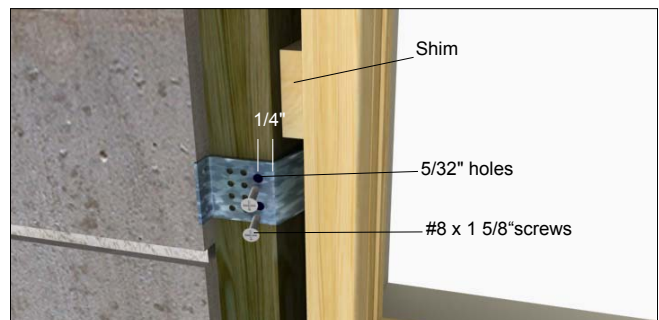

Figure 8 Fastening with structural brackets (concrete block application shown from interior).
2. When using structural and mull brackets, bend brackets against wood framing as shown in figure 8. Attach structural brackets to wood framing with two #8 x 1 5/8" screws per tab, making sure that the screws are no more than 1/4" (6) from the bend in the bracket (edge of the wood buck). Angle the screws approximately 15° toward the thicker part of the framing member. See figure 8.